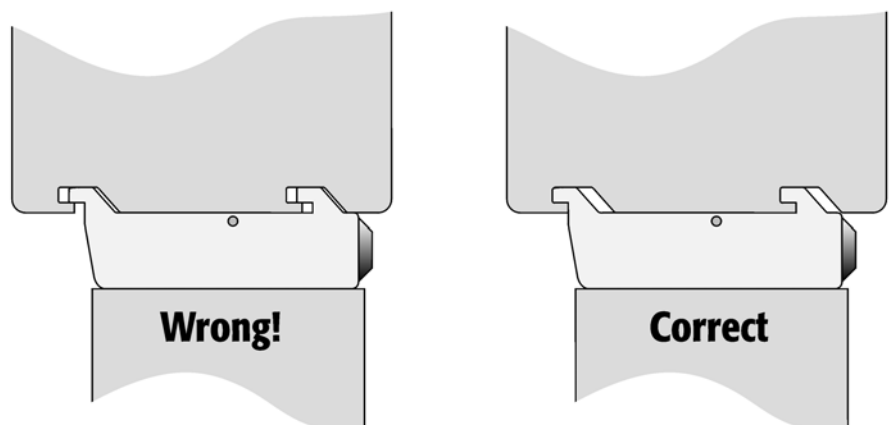

Figure 5. Attachment of Mounting Claws
- 4 Double check if the leg claws are correctly attached to the X-Crossrail (see Figure 5).